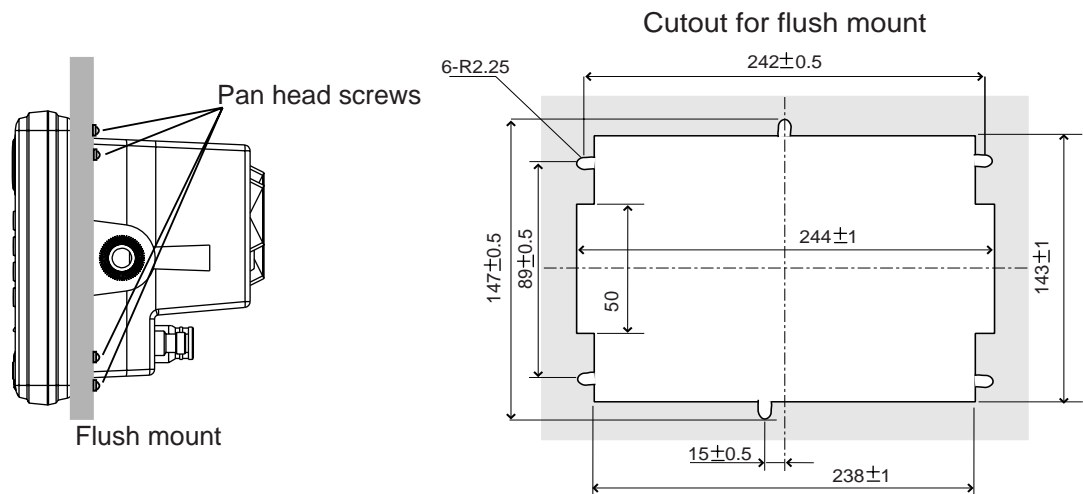

Figure 1-3 Flush mounting of display unit
1. Prepare a cutout in the mounting location whose dimensions are as shown in Figure 1-3.